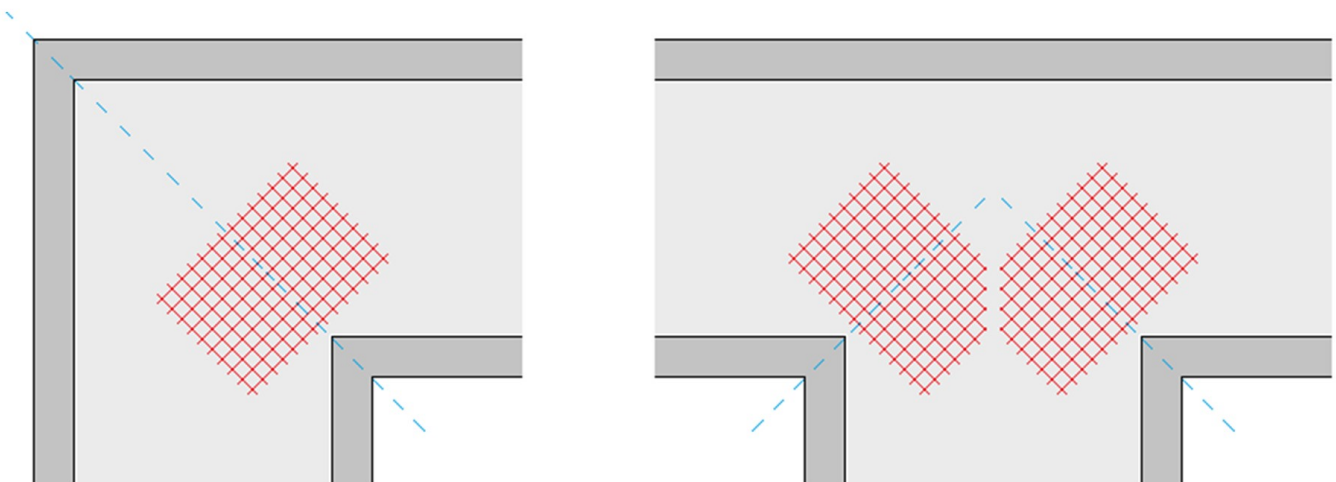

Fig. 1: Insertion of reinforcement mesh into L or T structures
- In the case of L- or T-shaped surfaces, it is necessary to insert a screed steel mesh (3 mm wire, 10x10 cm mesh) transversely to the direction of the joining of the two corners of the L or T structure (Fig. 1):